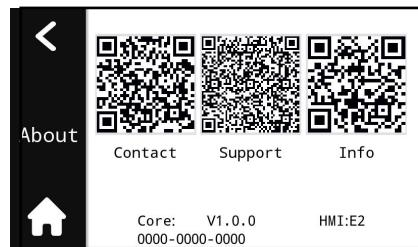

Figure 7d
- 1) Tap  in the settings page to enter this page.(Figure 7d).